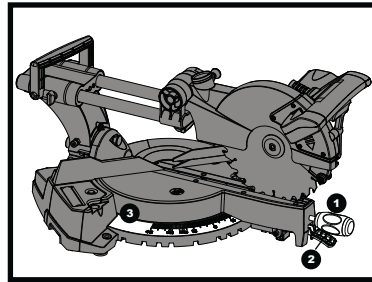

Fig 31
- 1) When a mitre cut is required, unlock the mitre table by turning the mitre handle (1) counterclockwise.
- 2) While holding the mitre handle, lift up on the positive stop locking lever (2).
- 4) When the table is in the desired position, as shown on the mitre scale (3), release the positive stop locking lever and tighten the mitre handle. The table is now locked at the desired angle. Positive stops are provided at 0°, 15°, 22.5°, 31.6° and 45°. (See fig. 31)